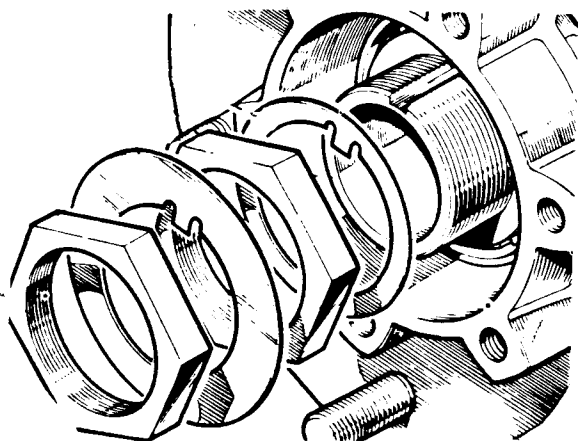

Fig J1.31
- (9) Refer to Fig J1.31. Remove the hub fixings.
- (10) Hold in position the outer roller bearing.
- (11) Withdraw the hub and bearing.